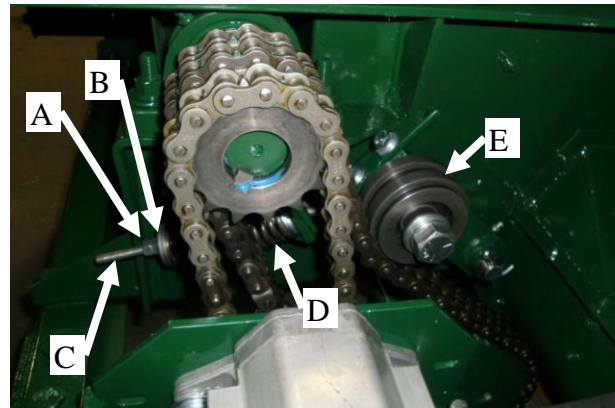

Figure 47 - Drive Chain Adjustment (Shield Removed for Clarity).
Adjust the tension of the main drive chain by doing the following steps (see Figure 47). Make sure the chain deflection is 1/2 inch total at the longest span.
- Loosen locking nut "A" (see Figure 47). Adjust nut "B" on j-bolt "C" to compress spring "D" increasing the tension of roller "E" on chain.
- Adjust bolt "A" (Figure 47) until the proper chain deflection is achieved.